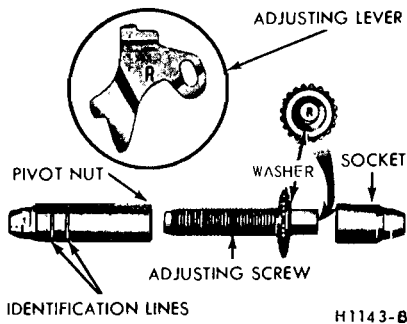

FIG. 16—Adjusting Screw and Lever Identification
Interchanging the brake shoe adjusting screw assemblies from one side of the vehicle to the other would cause the brake shoes to retract rather than expand each time the automatic adjusting mechanism operated. To prevent accidental installation of the adjusting screw on the wrong side of the vehicle the socket end of the adjusting screw is stamped with an R or L (Fig. 16). The adjusting pivot nuts can be distinguished by the number of grooves machined around the body of the nut. Two grooves indicate a right-hand nut; one groove indicates a left-hand nut.
9. Hook the cable hook into the hole in the adjusting lever. The adjusting levers are stamped with an R or L to indicate their installation on a right or left brake assembly (Fig. 16).